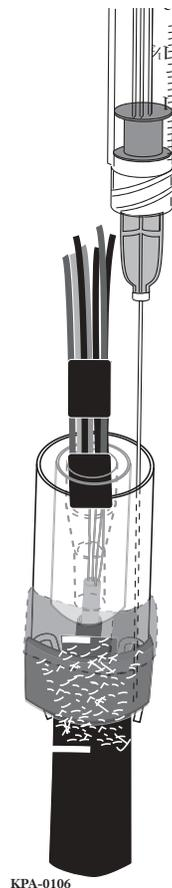

Figure 10
**Step 1** Position the metal tube over the furcation unit (Figure 10). Ensure that the fanout assembly is down in the tube approximately  $\frac{1}{4}$  inch (**OptiFit Hybrid Fitting**) or  $\frac{3}{16}$  inch (**OptiFit II Fitting**).